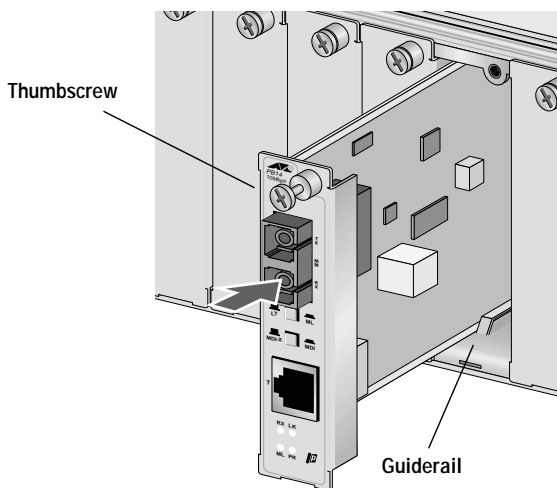

Figure 14 Installing a PowerBlade Module
3. Slide the module gently into place, aligning it with the guiderail, until it firmly connects to the chassis' backplane. See Figure 14.
4. Slide the module gently into place, aligning it with the guiderail, until it firmly connects to the chassis' backplane. See Figure 14.